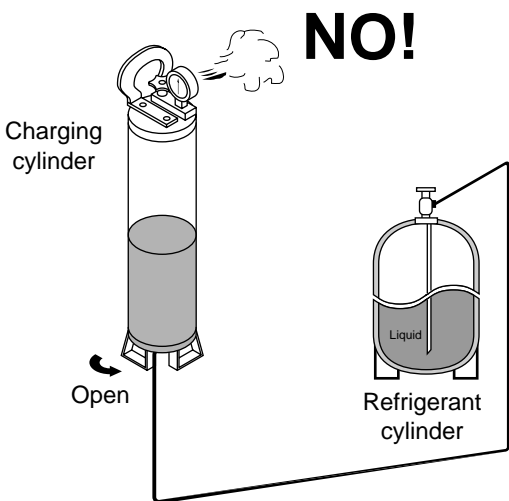

Fig.3
- **To prevent the composition of R407C from changing, never bleed the refrigerant gas into the atmosphere while transferring the refrigerant. (Fig. 3)**